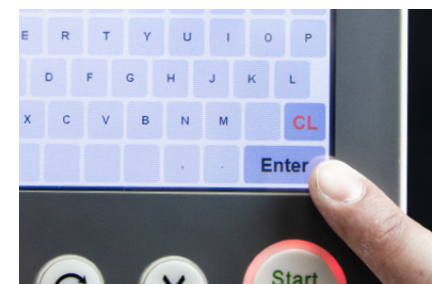

Figure 77
4. Select the design's font, density, compensation, angle and more using the row of design options on the right. Then, press the enter key on the bottom right. **See Figure 77.**